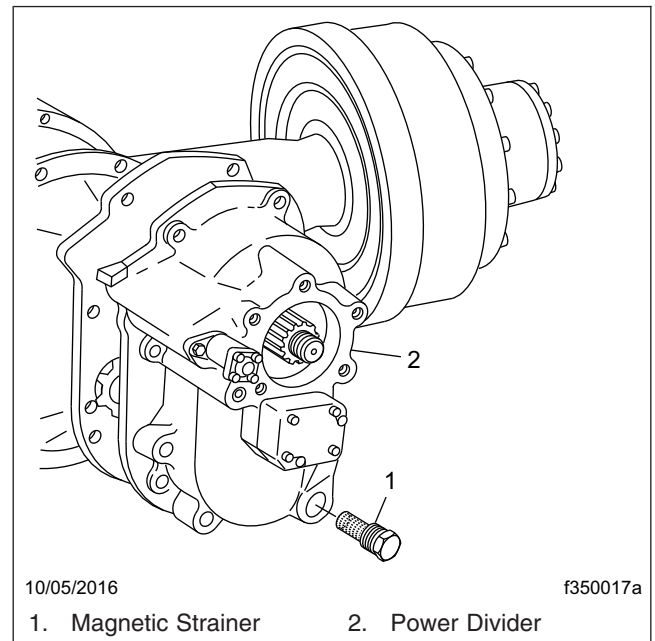

Fig. 5, Dana Spicer Tandem-Drive Axle Magnetic Strainer
4. At each axle oil change, remove and clean the magnetic strainer, if equipped. See **Fig. 5**.